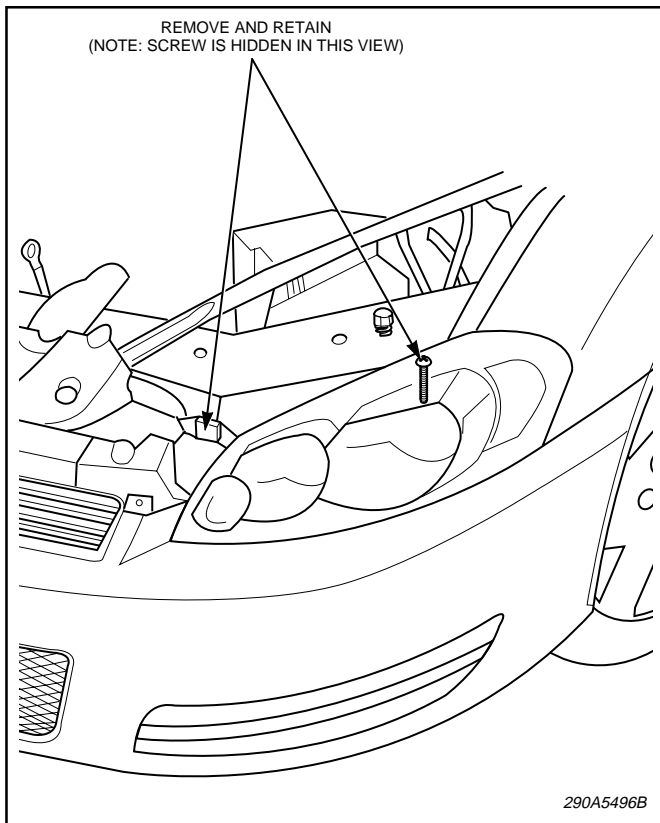

Figure 3.
- b. Raise vehicle hood. See figure 3. Remove driver side headlight.